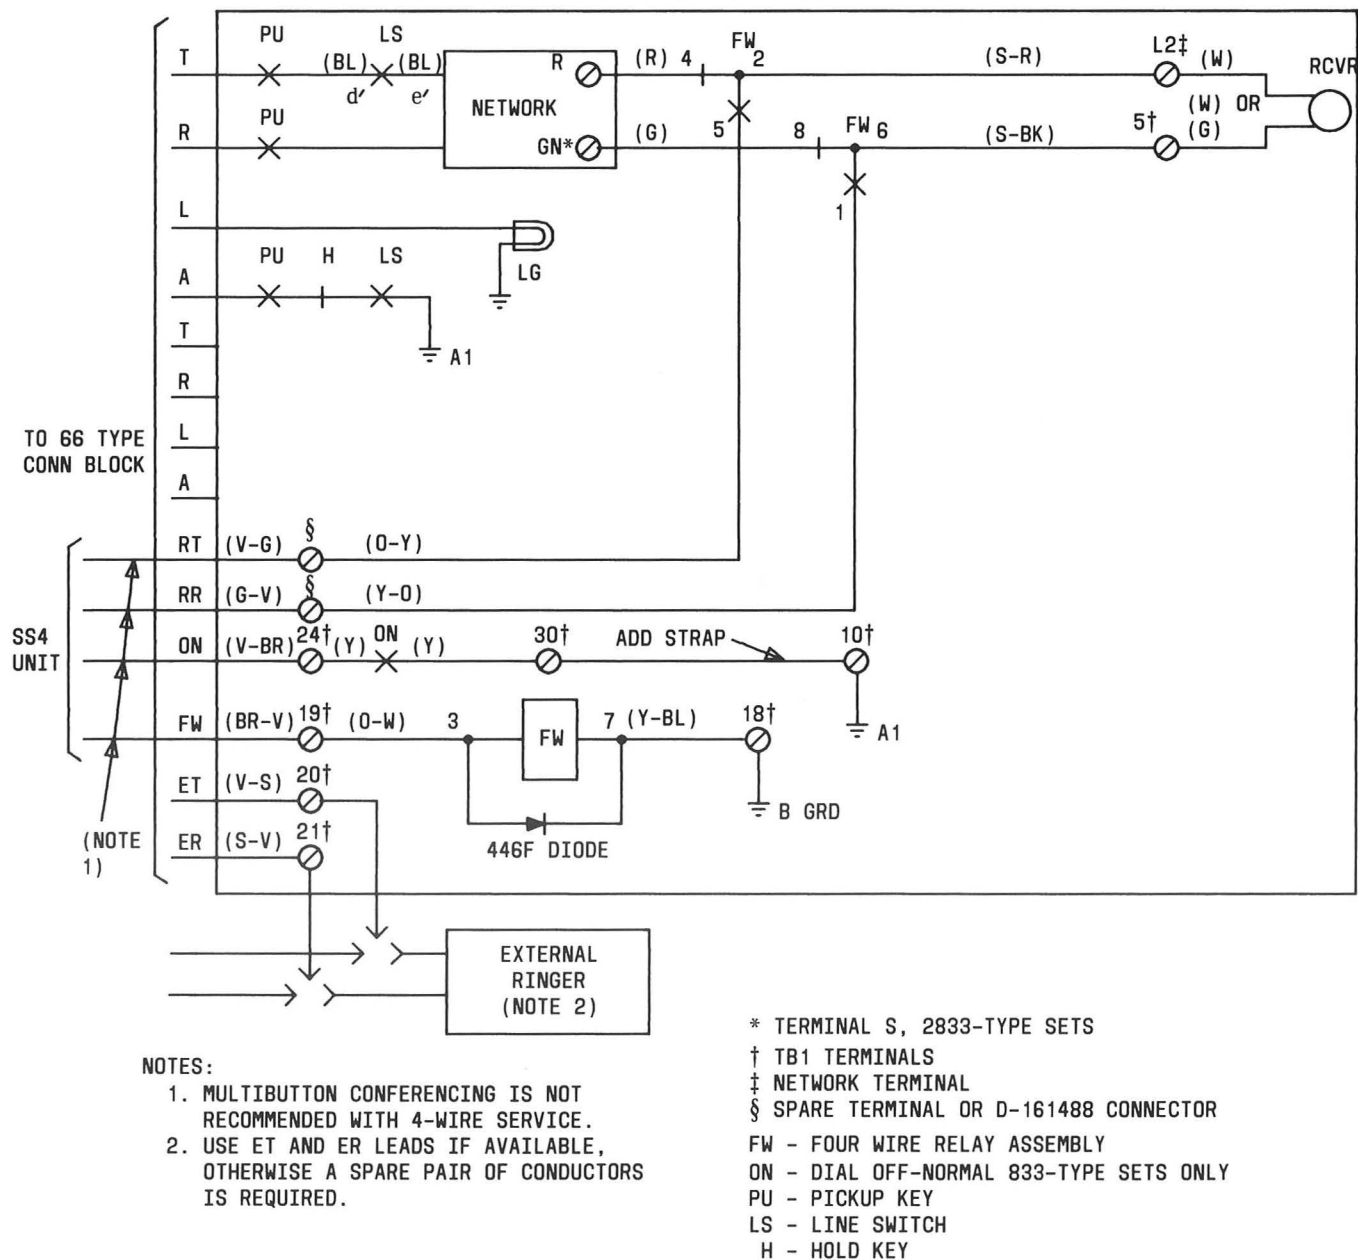

Fig. 8—833- and 2833-Type Telephone Set Connections for 4-Wire Service
(2) Connect the relay spade-tipped leads as shown in Table H and Fig. 8.
(3) Refer to Section 518-450-102 for 14A (MD) communication system and Section 518-450-110 for 21A communication system interconnecting wiring arrangement.